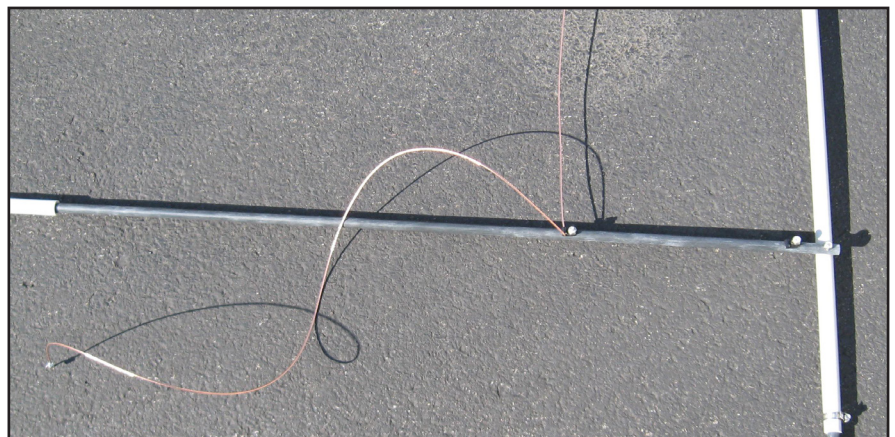

Fig. 73
- At the other end of the wire from the previous step, repeat the previous step to fasten the wire within the Black Cable Clamp located on the other side of the Boom at the Reflector End of the antenna as shown in Fig. 73.